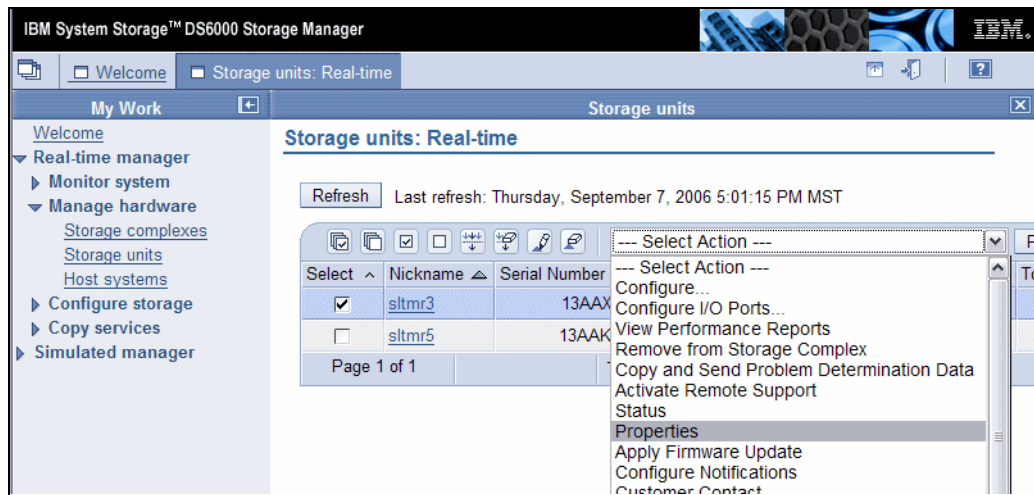

Figure 8-2 DS6000 Storage Units window
3. In the Storage Units main window, select the Storage Unit by clicking the box to the left of the desired Storage Unit, then selecting **Properties** from the **Select Action** drop-down menu (see Figure 8-2).